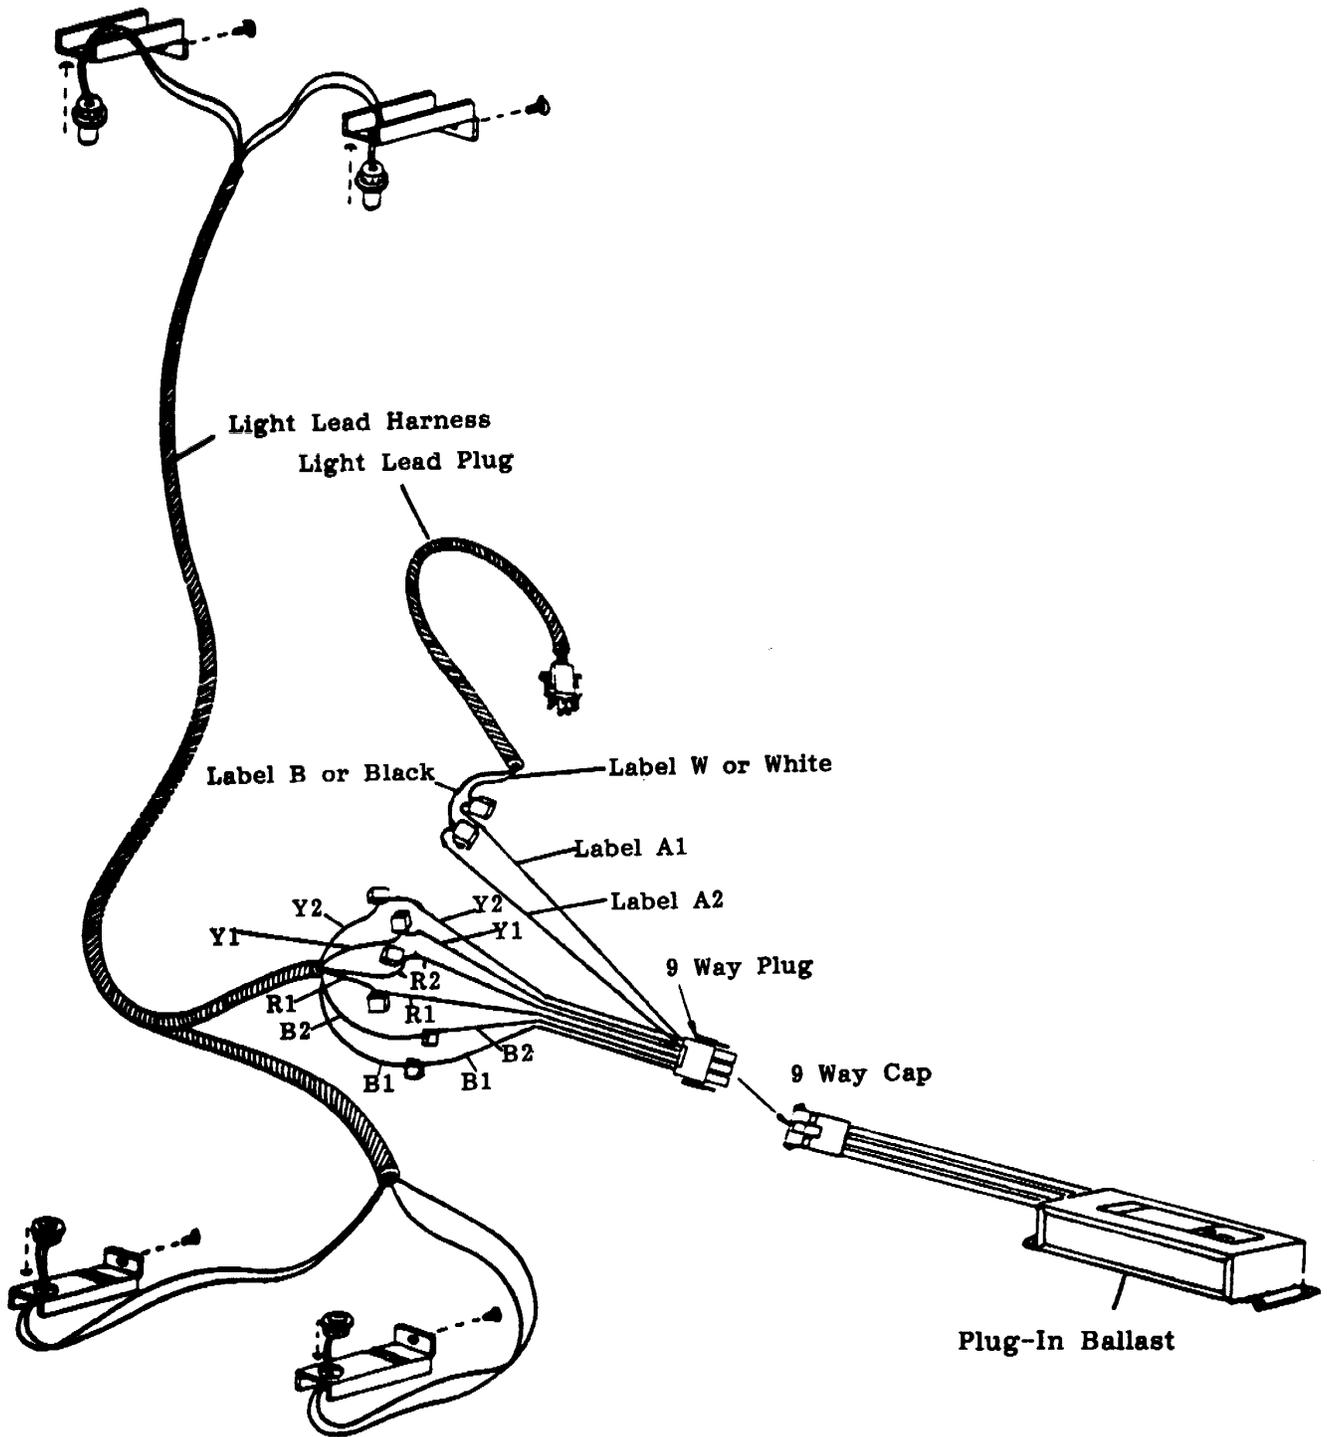

Figure 4
- a. Connect the wire of the light lead harness labeled "B1" (blue) to the wire of the Retrofit Harness labeled "B1" using a scotchlok connector. Tape the scotchlok connector with electrical tape, ensuring that the entire connector is completely covered. (See figure 4.)
- b. Connect the other wire of the light lead harness labeled "B2" (blue) to the other wire of the Retrofit Harness labeled "B2" using a scotchlok connector. Tape the scotchlok connector with electrical tape, ensuring that the entire connector is completely covered. (See figure 4.)
- c. Connect the wire of the light lead harness labeled "R1" (red) to the other wire of the Retrofit Harness labeled "R1" using a scotchlok connector. Tape the scotchlok connector with electrical tape, ensuring that the entire connector is completely covered. (See figure 4.)
- d. Connect the other wire of the light lead harness labeled "R2" (red) to the other wire of the Retrofit Harness labeled "R2" using a scotchlok connector. Tape the scotchlok connector with electrical tape, ensuring that the entire connector is completely covered. (See figure 4.)
- e. Connect the wire of the light lead harness labeled "Y1" (yellow) to the wire of the Retrofit Harness labeled "Y1" using a scotchlok connector. Tape the scotchlok connector with electrical tape, ensuring that the entire connector is completely covered. (See figure 4.)
- f. Connect the other wire of the light lead harness labeled "Y2" (yellow) to the other wire of the Retrofit Harness labeled "Y2" using a scotchlok connector. Tape the scotchlok connector with electrical tape, ensuring that the entire connector is completely covered. (See figure 4.)
- g. Connect the wire of the light lead plug labeled "B" (black) to the wire of the Retrofit Harness labeled "2A" using a scotchlok connector. Tape the scotchlok connector with electrical tape, ensuring that the entire connector is completely covered. (See figure 4.)
- h. Connect the wire of the light lead plug labeled "W" (white) to the wire of the Retrofit Harness labeled "1A" using a scotchlok connector. Tape the scotchlok connector with electrical tape, ensuring that the entire connector is completely covered. (See figure 4.)